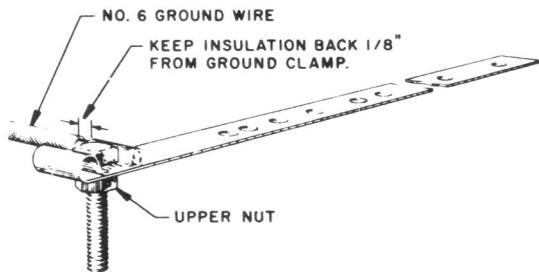

Fig. 51—Attaching No. 6 Ground Wire to L Ground Clamp
- (1) Clean pipe thoroughly.
- (2) Remove approximately 1 inch of insulation from the ground wire and clean conductor.
- (3) Remove the lower nut and the square washer from the bolt of the ground clamp.
- (4) Insert the ground wire conductor into the smaller loop of the ground clamp and secure it by tightening the upper nut on the bolt (Fig. 51).